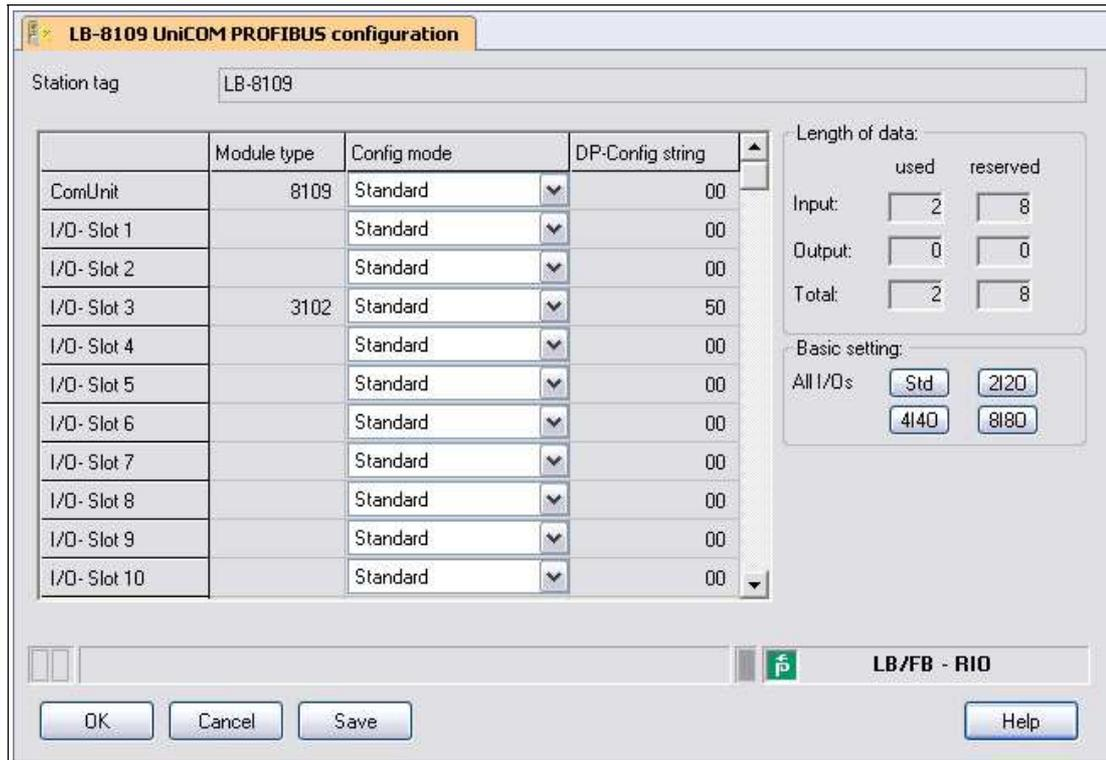

Figure 6.21 UniCOM PROFIBUS configuration in standard assignment
- ↳ The **Unicom PROFIBUS configuration** window opens. → see Figure 6.21 on page 48